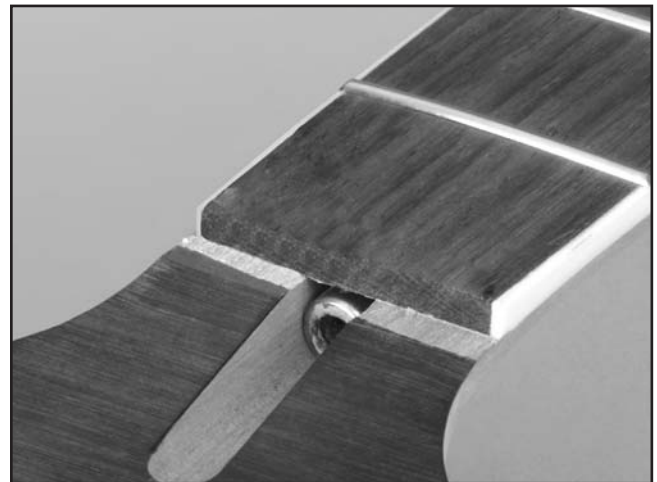

Figure 36. Truss rod nut.
3. Loosen the strings and turn the truss rod nut in the base of the neck (**Figure 36**) counterclockwise to release tension on the neck. Retighten until the nut begins to grab.